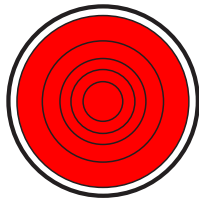

Figure 41. Main Circuit Breaker OFF Lamp (ON/RED)
6. Verify that the **Main Circuit Breaker OFF lamp** (Figure 41) is illuminated (**RED**). This indicates that the circuit breaker contacts are open.